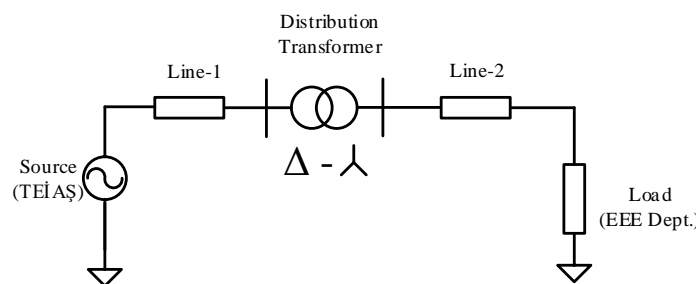

Figure 1. Single Line Diagram of the Distribution System of METU Campus
Q.2. Consider the single line diagram of the distribution system from TEİAŞ Transformer Station (near AŞTİ) to METU EEE Department given in Figure 1.